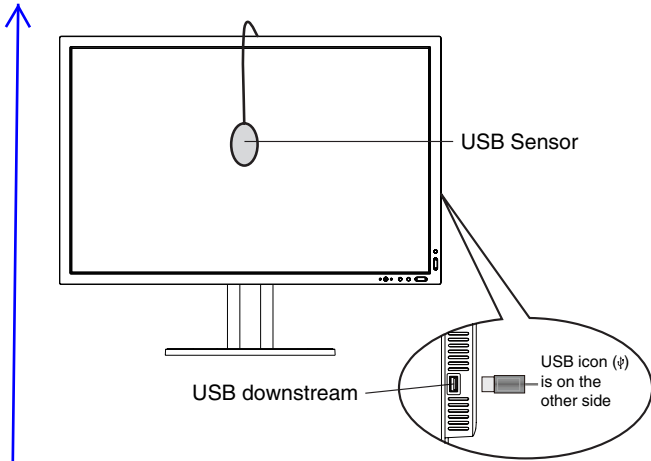
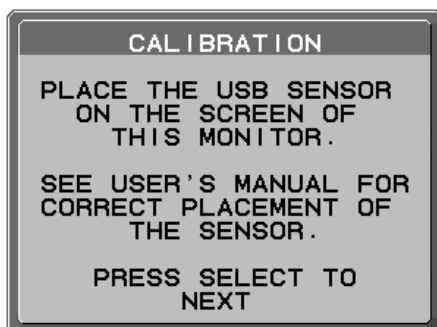

Figure S.1
Figure S.6
3. Plug-in the USB sensor to the side (or bottom when Portrait orientation) USB downstream port (Figure S.1).
6. The procedure will ask for the USB sensor to be placed on the center of the display panel (**Figure S.6**). Tilt the display panel approximately 5° backward and place the USB sensor in the center of the display panel (**Figure S.1**).